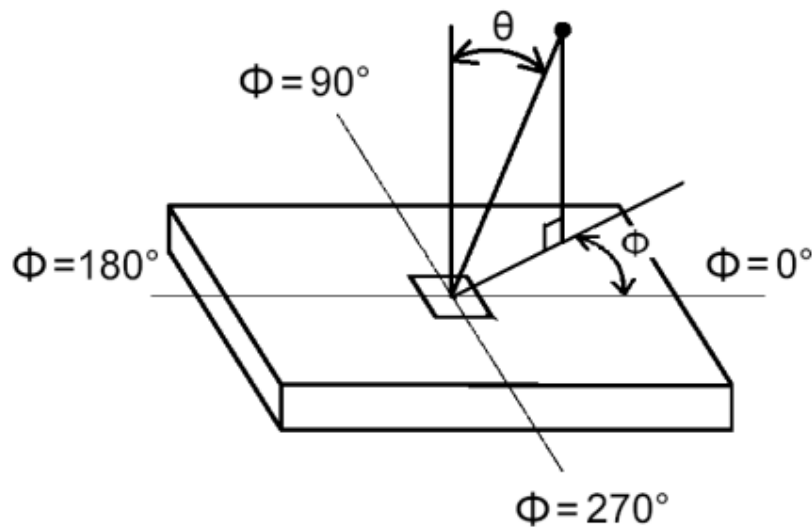

Fig.4-5 Viewing Angle Definition
6. Viewing angle is the angle at which the contrast ratio is greater than 10. The angles are determined for the horizontal or x axis and the vertical or y axis with respect to the z axis which is normal to the LCD surface. For more information see Fig. 4-5.